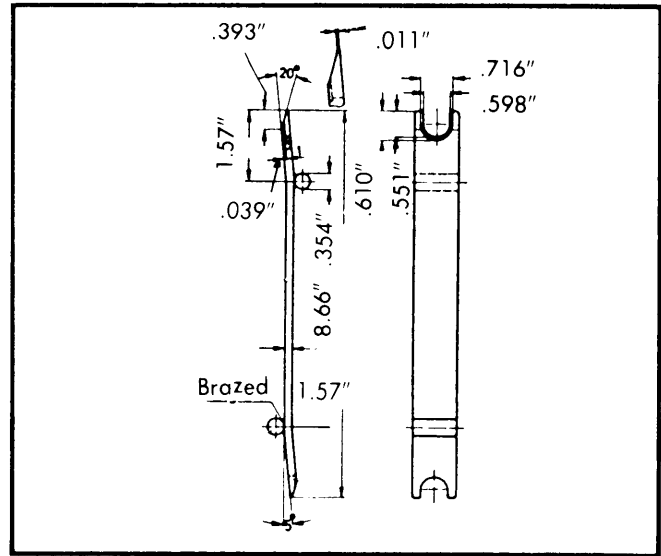

Fig. 3 Valve Stem Oil Seal Tool
- 2) Prepare a tool for removing oil seal. See Fig. 3. Using oil seal tool, lever oil seal off guide and stem.